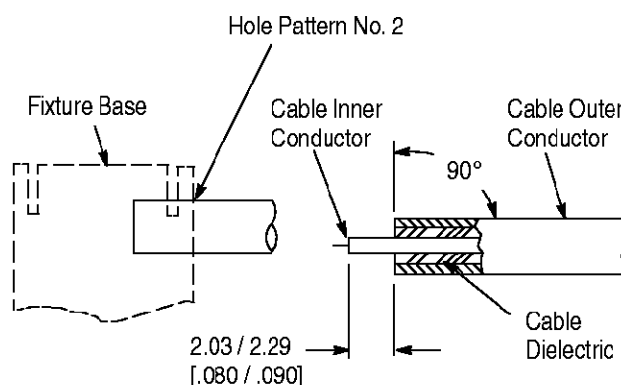

Figure 3
3.1. Preparing the Cable (Figure 3)
5. Complete trimming of cable inner conductor to dimension shown in Figure 3.